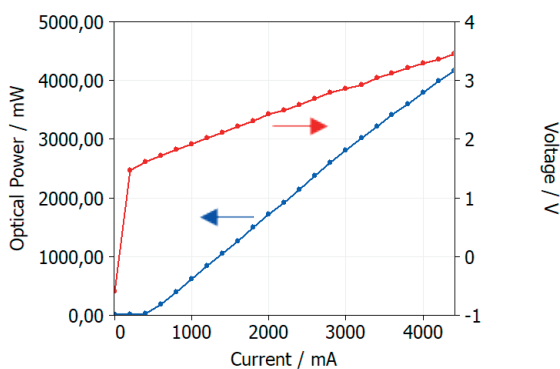

Figure 3: LIV-curve of a 2D VCSEL array.
The most common subset of the direct current (DC) parameters can be measured in a test known as the “LIV test sweep”. LIV-curves are a fast and inexpensive method to identify failed laser diodes early in the test process. The LIV-curve is basically a combination of two curves, the L/I curve and the V/I curve. The L/I curve plots the drive current (I) applied to the laser diode against the optical light intensity L. This curve is used to determine the operating point and the threshold current. The V/I curve plots the drive current (I) against the voltage drop across the laser diode. LIV-curves are usually measured using a spectroradiometer in combination with an integrating sphere and an SMU for the required drive current. Depending on the type of laser diode or application specific requirements, different types of SMUs might be necessary. For example, some VCSELs require testing with short current pulses in the microsecond range to limit self-heating. To shorten measurement times, the photodiode attached to the ISP can be used to acquire LIV-curves as well. Figure 3 shows a typical LIV-curve of a single VCSEL emitter. The data are taken using the Commander module in SpecWin Pro.